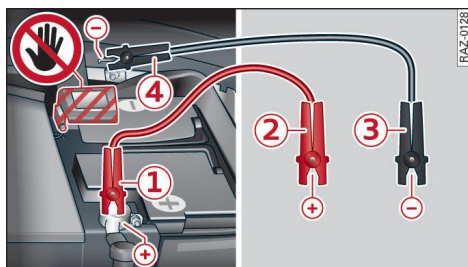

Fig. 179 Connecting jump leads
- 1. Connect one end of the positive lead (red) to the positive terminal ① on your vehicle's battery ⇒ Fig. 179.
- 2. Connect the other end of the positive lead (red) to the positive terminal ② on the power source.